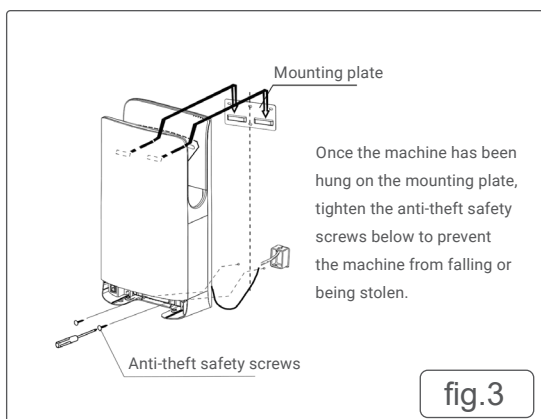

fig.3
10. Gently push the unit towards the wall. If the unit is not correctly positioned, the anti-theft screw will be difficult to install. Fig.3